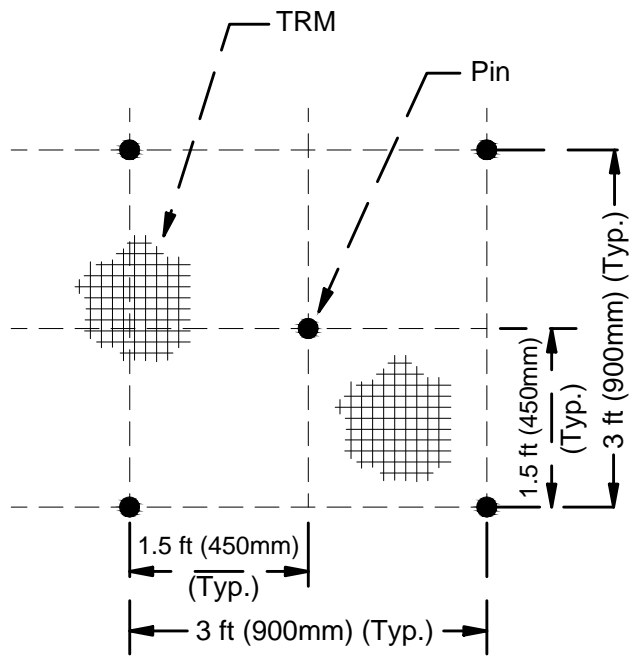

FIGURE 6: PIN PATTERN DETAIL
- Secure mat using suggested ground pinning devices for appropriate frequency and pattern shown on the Pin Pattern Guide (see Figure 6).